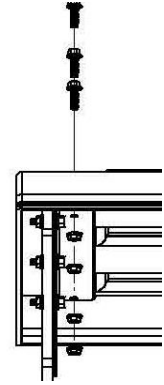

Figure 8
- I. Drill three 5/16" holes through the fender using the holes in bracket 100212 as a guide (Figure 8).